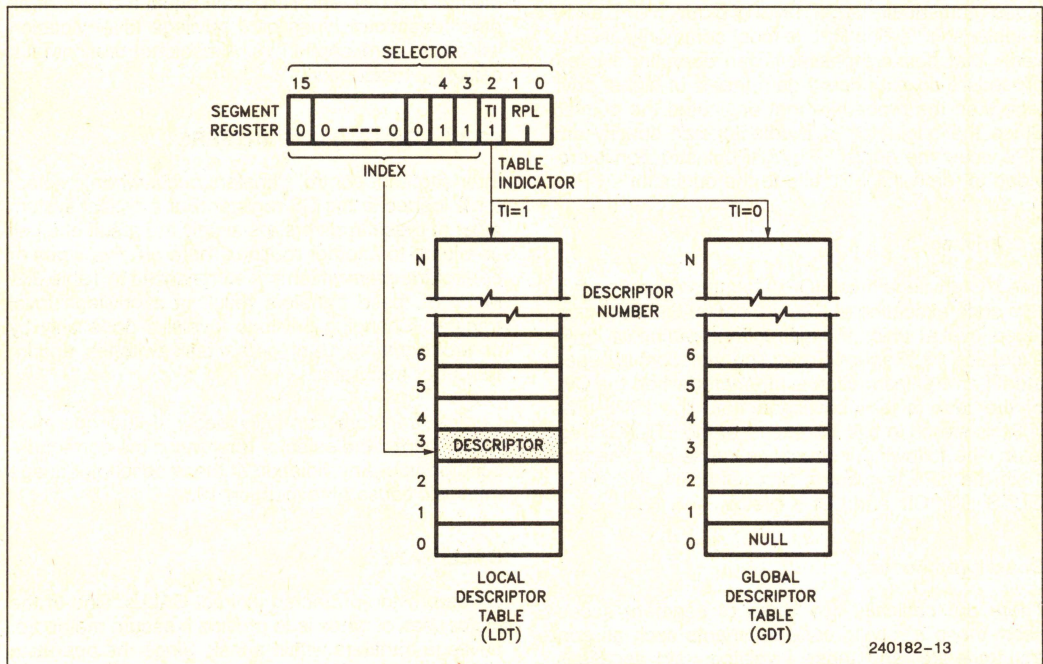

Figure 3.6. Example Descriptor Selection
A selector has three fields: Local or Global Descriptor Table Indicator (TI), Descriptor Entry Index (Index), and Requestor (the selector's) Privilege Level (RPL) as shown in Figure 3.6. The TI bit selects either the Global Descriptor Table or the Local Descriptor Table. The Index selects one of 8K descriptors in the appropriate descriptor table. The RPL bits allow high speed testing of the selector's privilege attributes.